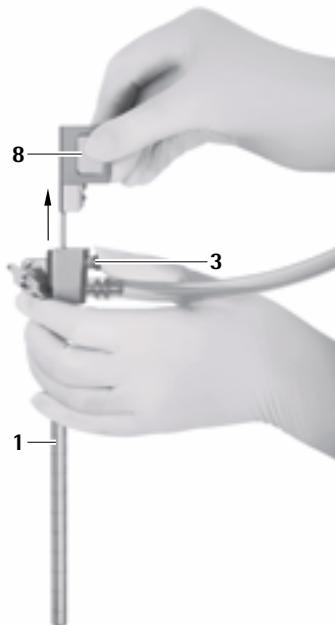

Fig. 10
- ▶ Press release button **3** and remove the obturator for the optical channel **8** carefully from the MINOP inVent trocar **1**, see Fig. 10.